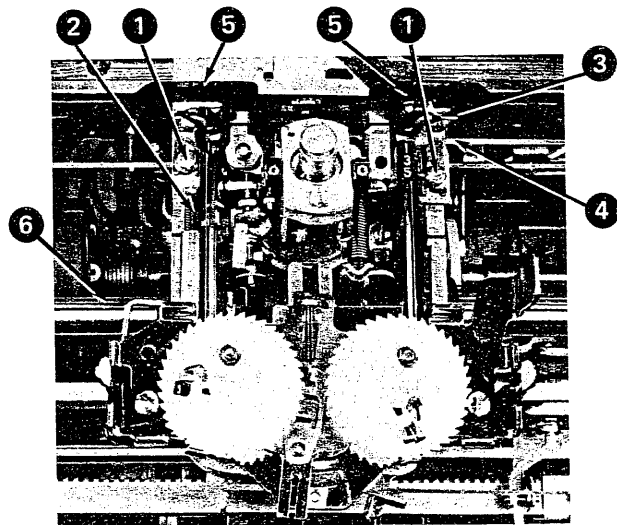

Figure 4-55. Carrier and Rocker Removal (Steps 2-13)
2. Remove the card holder (No. 1, Figure 4-55).
3. Disconnect the ribbon-lift spring (No. 2, Figure 4-55).
6. Remove the tape anchor screw (No. 3, Figure 4-55).
7. Remove the tapes (No.4, Figure 4-55).
9. Remove the escapement-bracket mounting screws (No. 5, Figure 4-55).
12. Remove the print shaft (No. 6, Figure 4-55).
3. Measure the clearance between the tab torque bar and the escapement bracket with a feeler gage (No. 2, Figure 4-55). If the escapement bracket has a raised portion next to the tab torque bar, measure the clearance at this point.